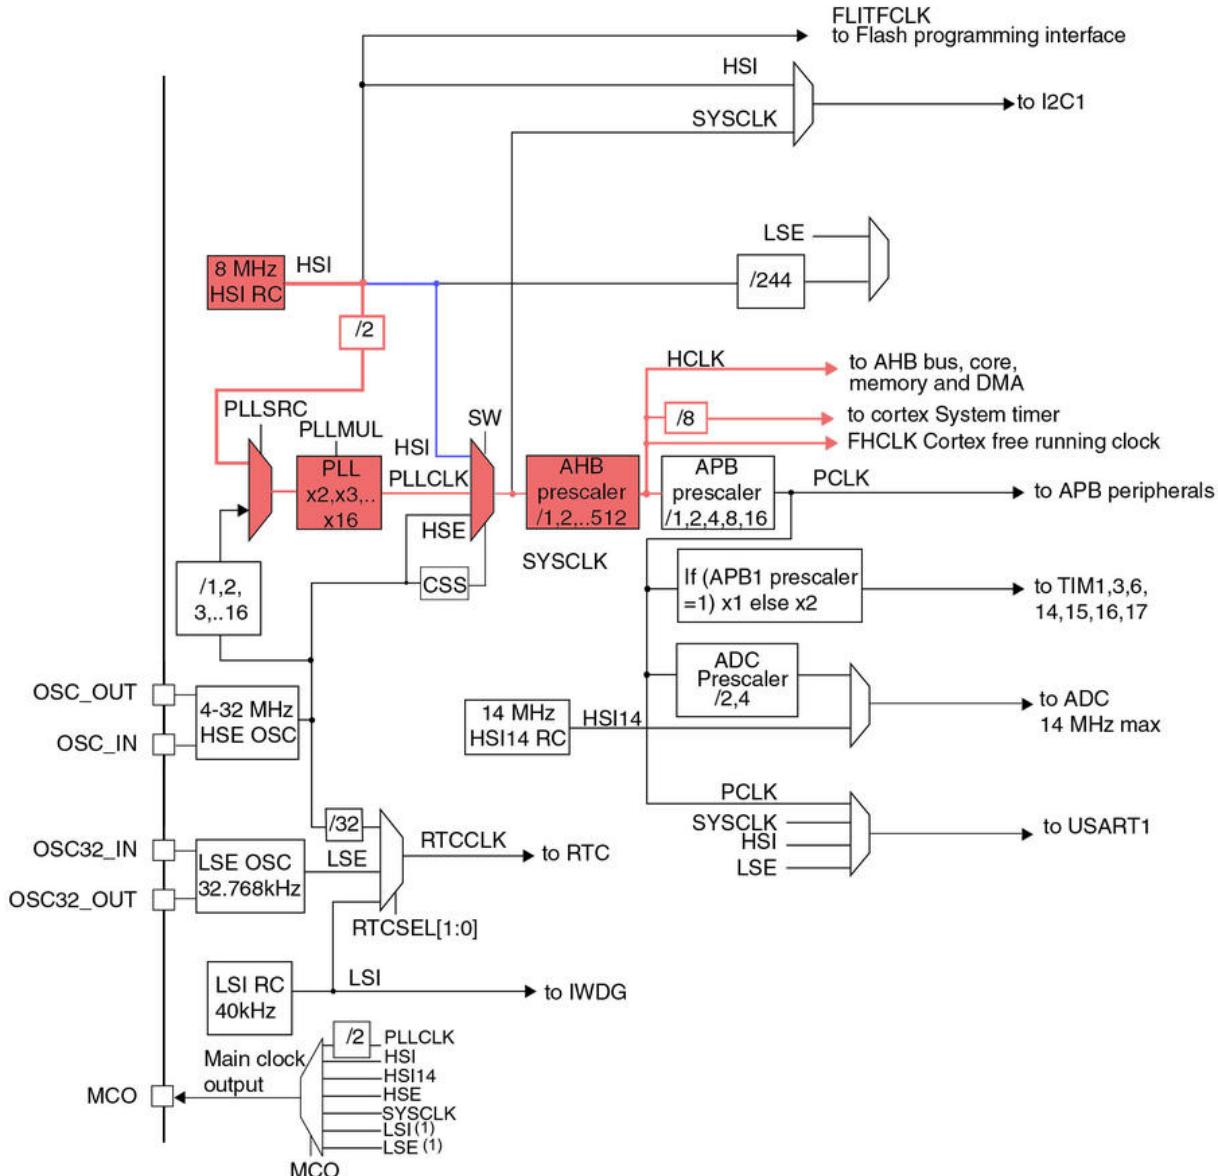
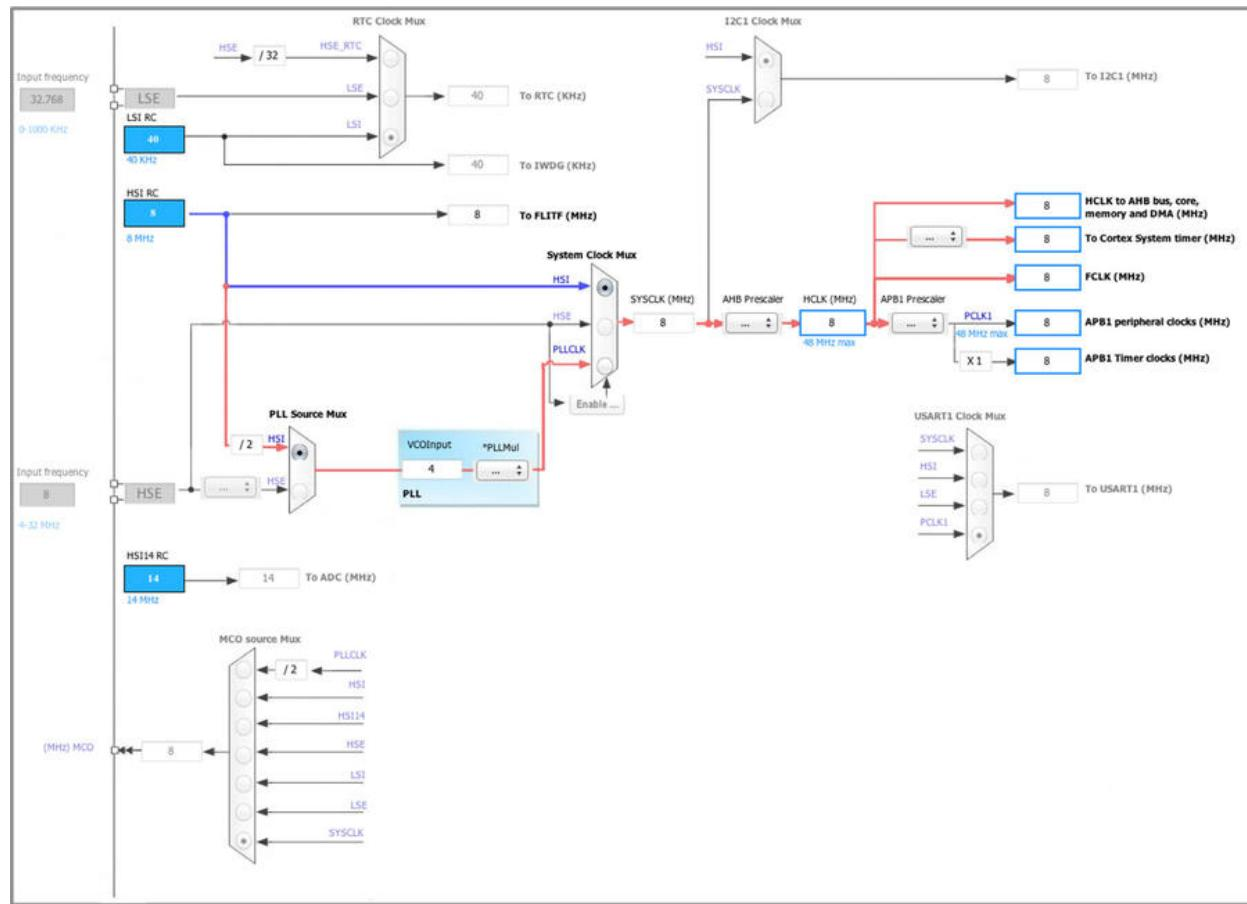

Figure 3: The clock tree of an STM32F030R8 MCU
Figure 4: How the clock tree of an STM32F030R8 MCU is represented in CubeMX
Figure 3 shows the clock tree of one of the simplest STM32 microcontrollers: the STM32F030R8. It is extracted from the related reference manual9 provided by ST. For a lot of novices of the STM32 platform that figure is completely meaningless and quite hard to decode, especially if they are also
The path starts from the internal 8MHz oscillator. As said before, it is an RC oscillator factory-calibrated by ST for 1% accuracy at a ambient temperature of 25 °C. The HSI clock can then be used to feed the *System Clock Switch* (SW) as is (path highlighted in blue in Figure 3) or it can be used to feed the PLL multiplier after it has been divided by two thanks to an intermediate prescaler10. The main PLL so can multiply the 4MHz clock up to 12 times to obtain the maximum *System Clock Frequency* (SYSCLK) of 48MHz. The SYSCLK source can be used to feed the I2C1 peripheral (in alternative to the HSI) and another intermediate prescaler, the AHB prescaler, which can be used to lower the *High (speed) Clock* (HCLK), which in turn biases the AHB bus, the core and the *SysTimer*.
We have already encountered in Chapter 4 the CubeMX *Clock Configuration* view. Now it is the right time to see how it works. The Figure 4 shows the clock tree of the same F0 MCU seen so far. As you can see, thanks to the more room available on the screen, the distribution network looks less cumbersome.
Even in this case, the most relevant paths of the clock tree have been highlighted in red and blue. This should simplify the comparison with the Figure 3. When a new project is created, by default CubeMX chooses the HSI oscillator as default clock source. HSI is also chosen as default clock source for the *System Clock Switch* (path in blue), as shown in Figure 4. This means that, for the MCU we are considering here, the Cortex-M core frequency will be equal to 8MHz.
core frequency we first need to select the PLLCLK as the source clock for the *System Clock Switch* and then choose the right PLL multiplier factor. However, CubeMX offers a quick way to do this: you can simply write “48” inside the HCLK field and hit the enter key. CubeMX will automatically arrange the settings, choosing the right clock tree path (the red one in Figure 4)